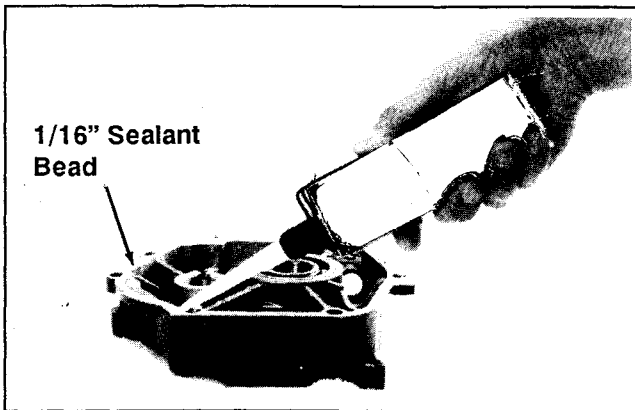

Figure 11-12. Applying Sealant To Closure Plate.
3. Apply a 1/16” bead of sealant to the closure plate as shown in Figure 11-12.